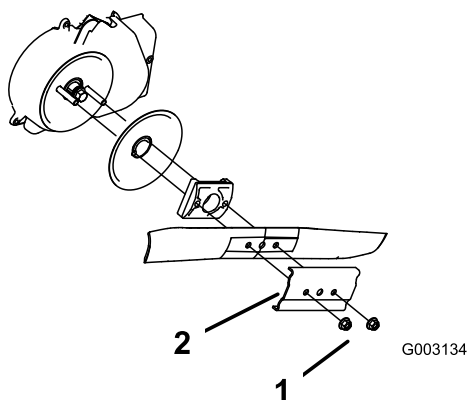

Figure 49
3. Remove the 2 blade nuts and the stiffener (Figure 49).
4. Remove the blade (Figure 49).
5. Install the new blade (Figure 49).